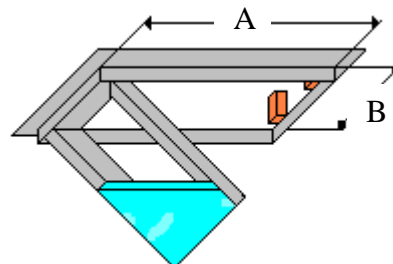

Fig. 2.
2. In a place that is designed for flap's assembly, a hole (square or rectangular) should be cut down; dimensions of the hole should correspond to the external dimensions of flap's flange permanent part (A and B on figure 2) – see table 1.